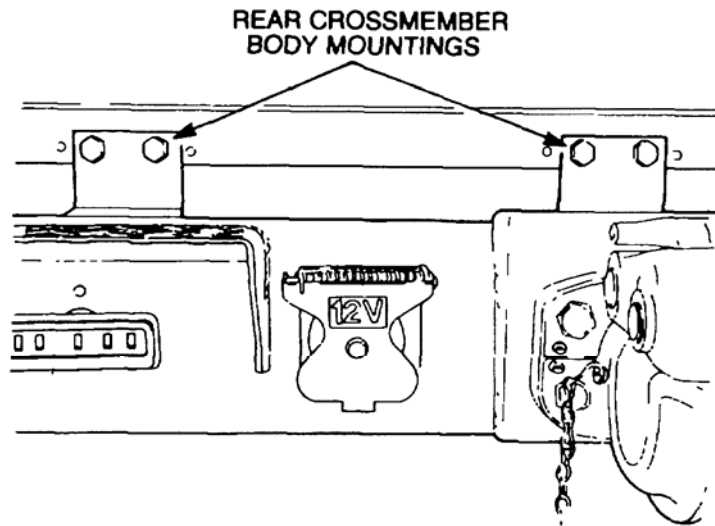

Figure 17 Rear Body Mountings
- nn.** Remove the ten bolts securing the body to the rear crossmember (Figure 17).